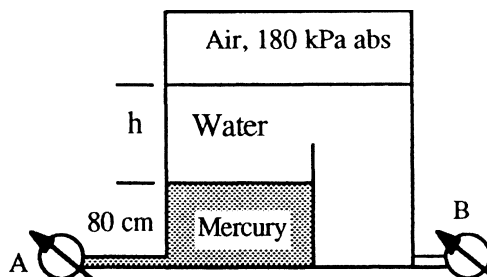

Fig. P2.21
**2.21** In Fig. P2.21 all fluids are at 20°C. Gage A reads 350 kPa absolute. Determine (a) the height  $h$  in cm; and (b) the reading of gage B in kPa absolute.